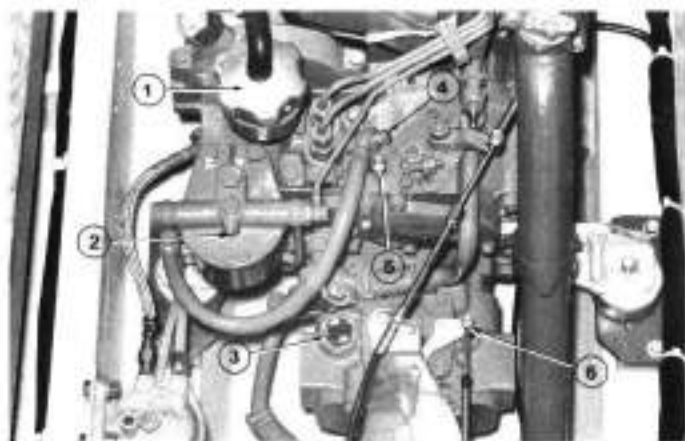

Fig. 3. Fuel vent screws and other details
7. When the engine is tested before delivery the fuel system is bled free of air. It would be wise to do this again before the first start. It is important to know how to bleed the fuel system in case you happen to get air in the system while away cruising. This can happen if the fuel level is too low and the boat is rolling heavily. Try not to allow the fuel level to fall below 10 to 15 litres. The bleeding is performed as follows (fig. 3 and 4): The fuel is pumped using the hand primer. With long strokes at least 30 vertical movements will be necessary. Then open the vent screw on the fine filter. Continue pumping until fuel free from air bubbles flows out. Close the screw. Open the vent screw on the fuel injection pump. Now pump again until fuel free from air bubbles flows out. Close the vent screw.
NOTE: If the engine is difficult to start in cold weather the cold weather starting button on the fuel injection pump should be pushed in. This will supply a richer starting mixture. Set the control lever at the starting position (position 7, fig. 8) then push the cold weather starting button. It will remain in until it automatically releases when the engine starts. The position of the button is shown in fig. 3.